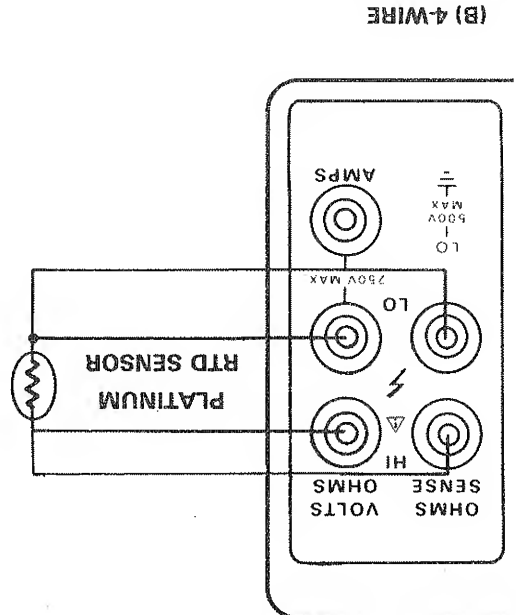

Figure 2-10. Sensor Connections (Cont.)
6. Connect the instrument to the source as shown in Figure 2-10.